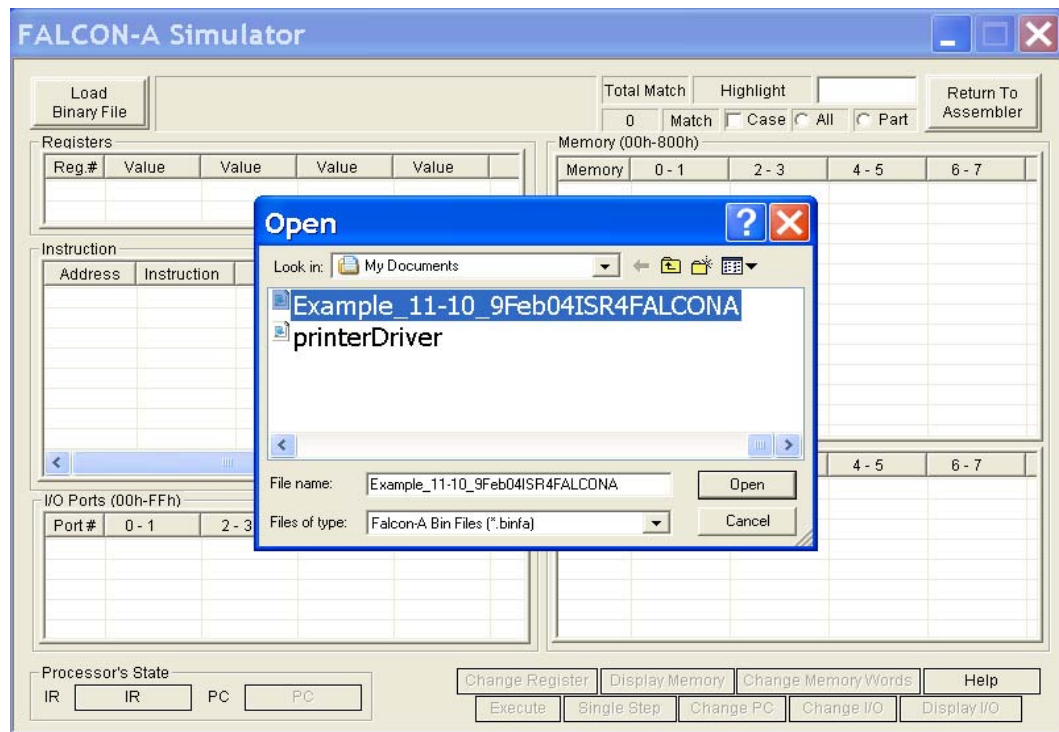

Figure 7
- Select the binary file to be simulated, and click **Open** as shown in Figure 7. (It is also possible to open the file by double clicking on the file name in the “Open” window).